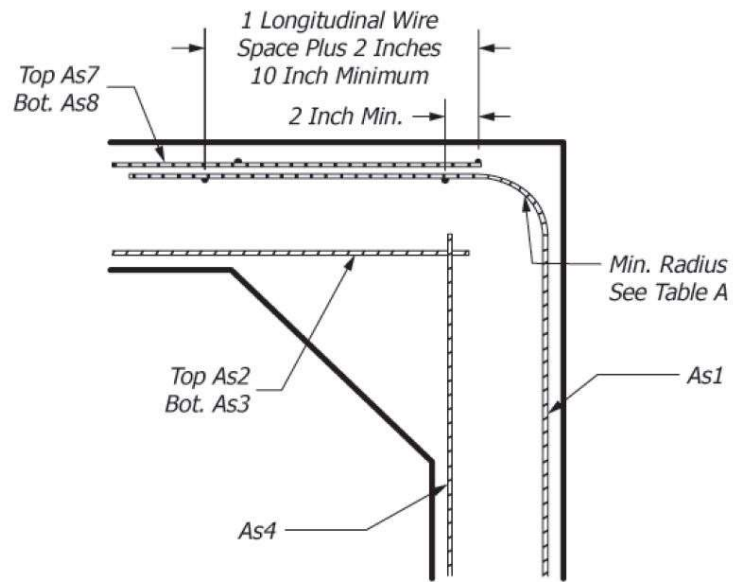
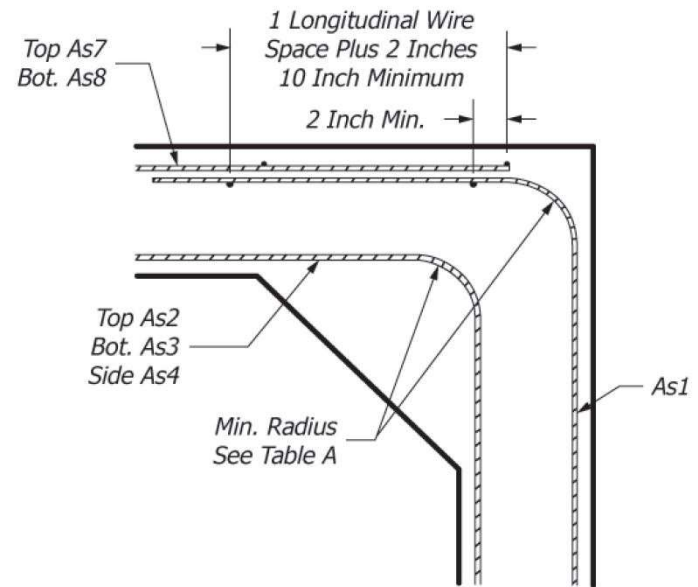
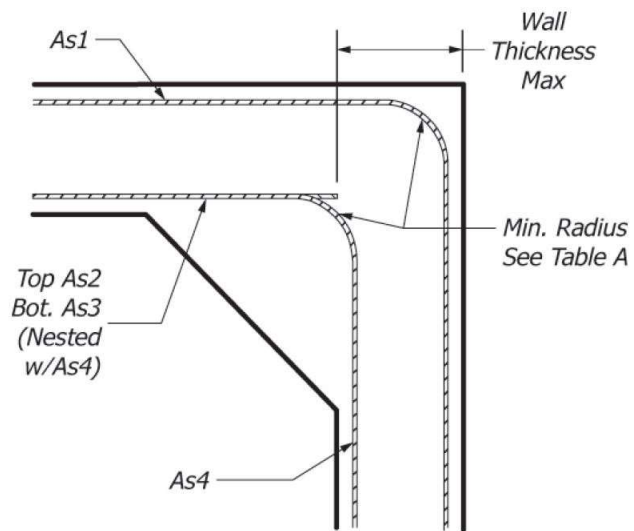
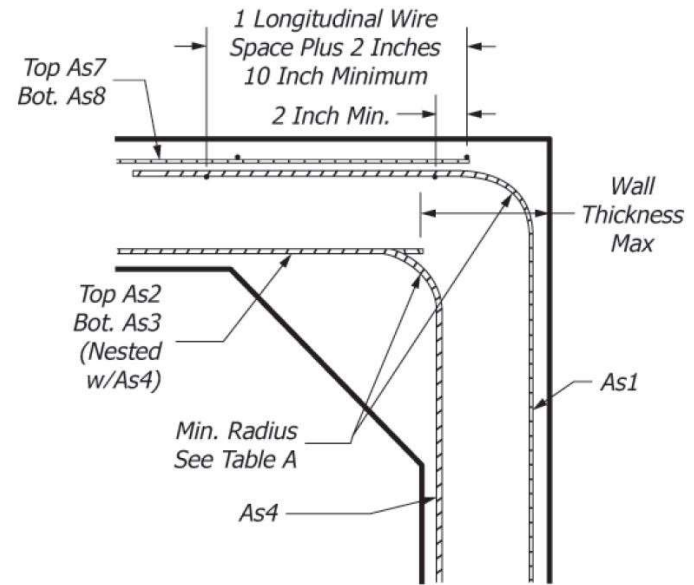

FIG. 5 Detailed Reinforcement Arrangement
FIG. 6 Detail Option
FIG. 7 Alternate Detail
FIG. 8 Alternate Detail (see Fig. 5)
- When used, As7 and As8 shall be lapped with As1 as shown in Fig. 5 or Fig 6 (see also Fig. 7 and Fig 8.)
- in **Fig. 3, Fig. 5, Fig. 9, Fig. 10, Fig. 11, and Fig. 12**
ASTM C1433: Fig 5 And Fig 6
ASTM C1433: Fig 7 And Fig 8
7.4 Laps, Welds, and Spacing—Splices in the circumferential reinforcement shall be made by lapping. The overlap measured between the outermost longitudinal wires of each reinforcement sheet shall not be less than the spacing of the longitudinal wires plus 2 in. but not less than 10 in. If As1 is extended to the middle of either slab and connected, welded splices are not prohibited in the connection. When used, As7 and As8 shall be lapped with As1 as shown in Fig. 5 or Fig. 6 (see also Fig. 7 and Fig. 8). If welds are made to circumferential reinforcement, they shall be made only to selected circumferential wires that are not less than 18 in. apart along the longitudinal axis of the box section. Also, when spacers are welded to circumferential wires, they shall be welded only to these selected circumferential wires. There shall be no welding to other circumferential wires, except it is not prohibited for As4 to be lapped and welded at any location or connected by welding at the corners to As2 and As3. No welds shall be made to As2 or As3 circumferential wires in the middle third of the span. (See Fig. 9 for welding restrictions.) When distribution reinforcement is to be fastened to a cage by welding, it shall be welded only to longitudinal wires and only near the ends of the box section. The spacing center to center of the circumferential wires shall not be less than 2 in. nor more than 4 in. The spacing center to center of the longitudinal wires shall not be more than 8 in.